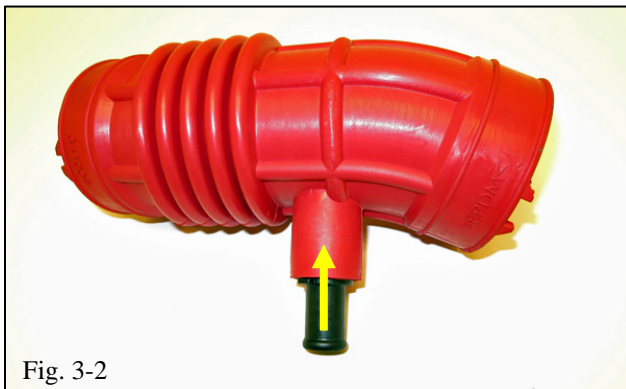

Fig. 3-2
- (c) On a workbench, install the OE plastic PCV connector barb into the TRD coupler (Fig. 3-2).